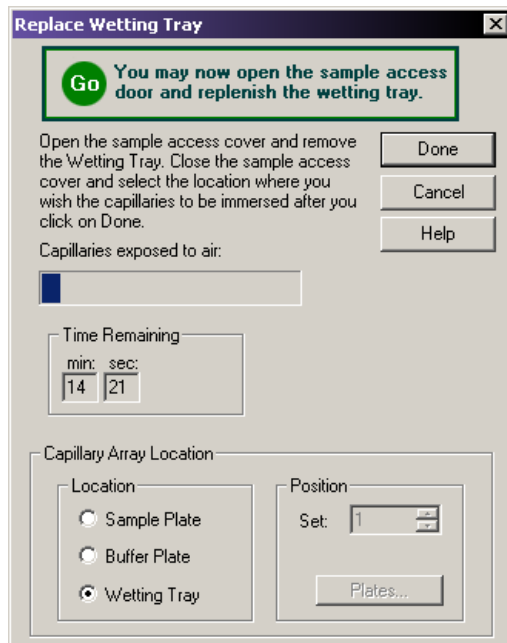

Figure 9.10 Replace Wetting Tray Dialog Box
7. Click **Done** on the Replace Wetting Tray dialog box (Figure 9.10).